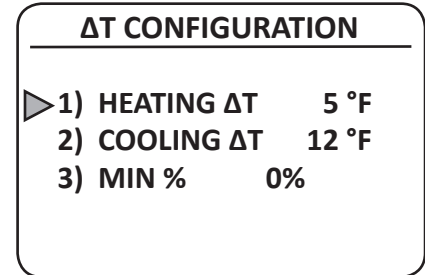

Figure 12: ΔT Configuration
The ΔT Configuration menu (Figure 12) is accessed by selecting 1) ΔT from the Setup Menu when item 4) is set to ΔT. Separate ΔT values for heating and cooling operation can be specified. The Heating ΔT will be applied when the controller receives a 24VAC signal at the left HP IN1 terminal or the left HP IN2 terminal AND the EWT > LWT (i.e. heat is extracted from loop). The Cooling ΔT will be applied when the controller receives a 24VAC signal at the left HP IN1 terminal or the left HP IN2 terminal AND the LWT > EWT (i.e. heat is rejected to loop). A dry contact across the two terminals of HP IN1 or HP IN2 can be used as an alternative to providing a 24VAC signal.